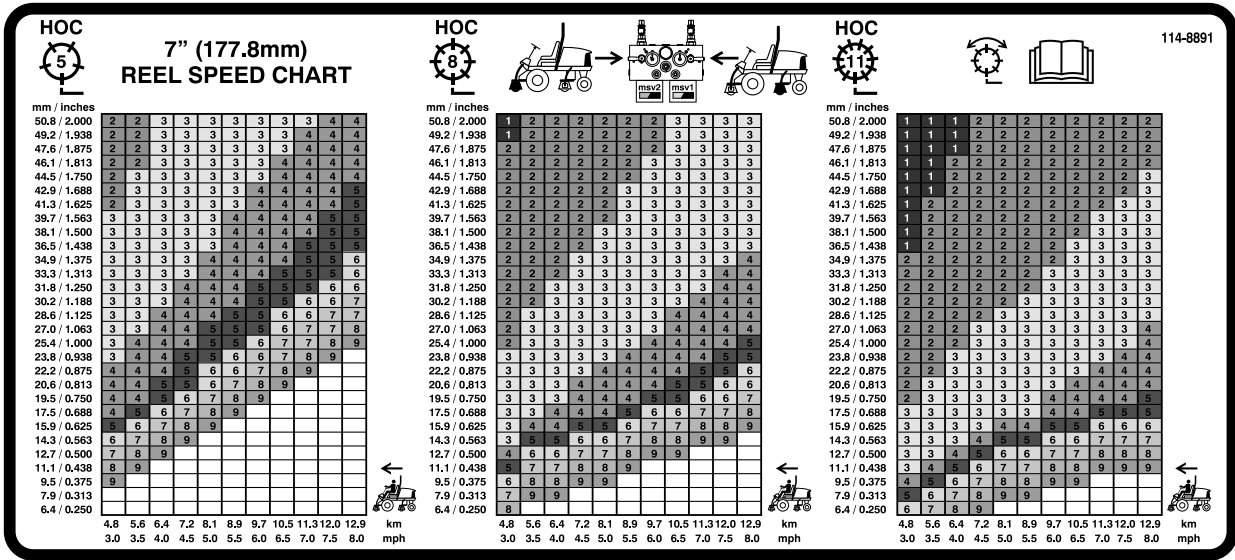
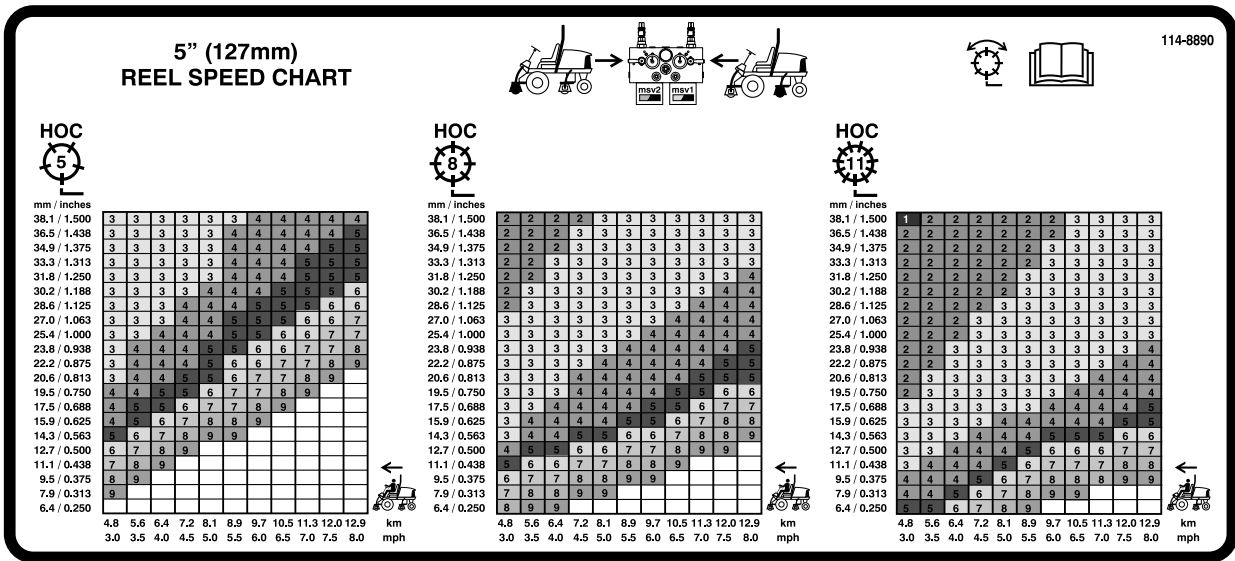

Figure 38
Figure 39
3. Using the appropriate graph on decal 110-0996 (Figure 38) for Reelmaster 5510 & 5610, 7 inch reel cutting units or decal 110-8923 (Figure 39) for Reelmaster 5410, 5 inch reel cutting units determine the proper reel speed setting.